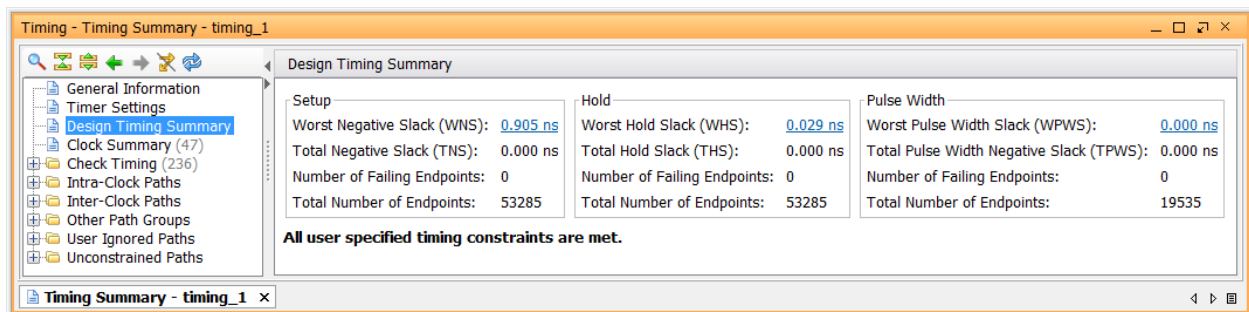

Figure 121: Timing Summary
7. Verify that all timing constraints have been met by looking at the Timing - Timing Summary window (FIGURE 121).